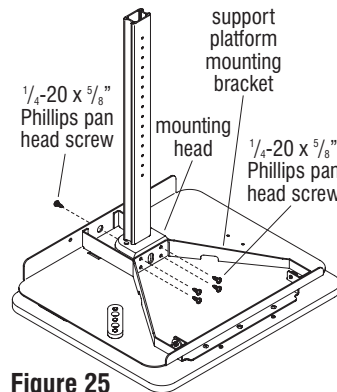

Figure 25
5. At the back, non-user side of the worktop support platform, align the back mounting hole on the mounting head with the mounting hole on the support mounting bracket and secure using one 1/4-20 x 5/8" Phillips pan head screw (Figure 25 & Detail J2).
6. At the user side of the worktop support platform, secure the support mounting bracket to the mounting head using four 1/4-20 x 5/8" Phillips pan head screws (Figure 25 & Detail J2).